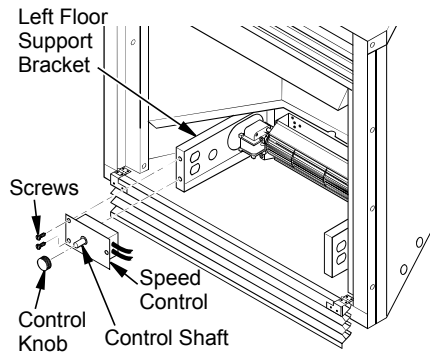

Figure 21 - Attaching Speed Control to Firebox
9. Mount the speed control on the front leg of the left floor support bracket using 2 screws provided (see Figure 21). *Note:* Some remote ready fireplace models have the gas control located near the left floor support bracket. For these models, mount the blower speed control onto the right floor support bracket.